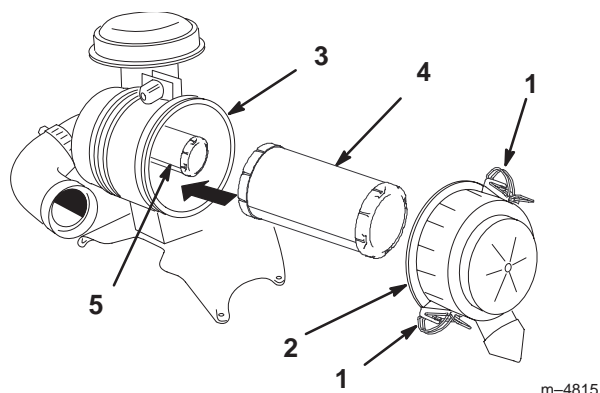

Figure 34
2. Release the latches on the air cleaner and pull the air cleaner cover off of the air cleaner body (Fig. 34).
4. Gently slide the primary filter out of the air cleaner body (Fig. 34). Avoid knocking the filter into the side of the body. Do not remove the safety filter, unless you intend to replace it as well.
2. If the safety filter is being replaced, carefully slide it into the filter body (Fig. 34).
3. Carefully slide the primary filter over the safety filter (Fig. 34). Ensure that it is fully seated by pushing on the outer rim of the filter while installing it.
4. Install the air cleaner cover with the side indicated as **UP** facing up and secure the latches (Fig. 34).